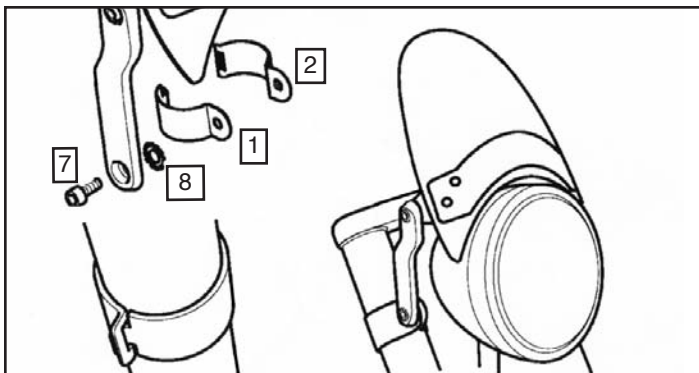

Figure 5
9. Hold Inner Clamp (2) to inside of fork tube, hook Outer Clamp (1) to the Inner Clamp.
10. Secure Clamp Assembly to the Offset Bracket with remaining M8 Screw (7) and Washer (8). (6mm Hex Wrench) **Figure 5**